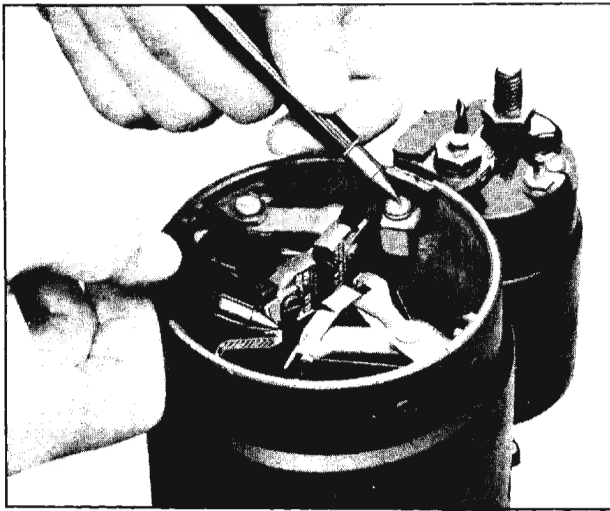

Fig. 14-32 Checking Field Coil for Open
- c. On starting motors used with regular fuel engines, using a 110-volt test lamp, place one lead on the connector bar and the other lead on one of the insulated brush terminals. (Fig. 14-32) If the lamp does not light, the series coils are open and will require repair or replacement.